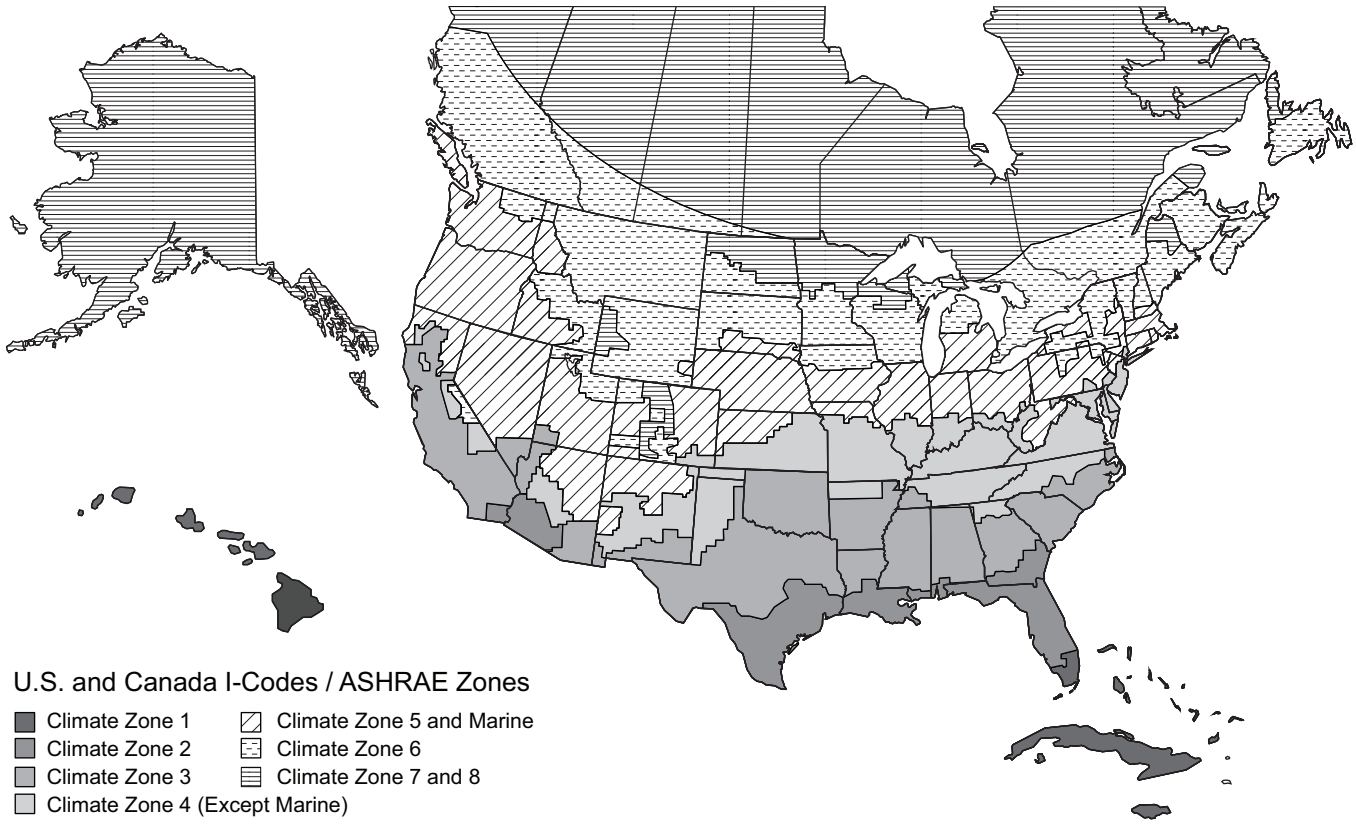

Fig. 25 — U.S. and Canada Climate Zones
- a. See Fig. 25 for map of U.S. and Canada climate zones.